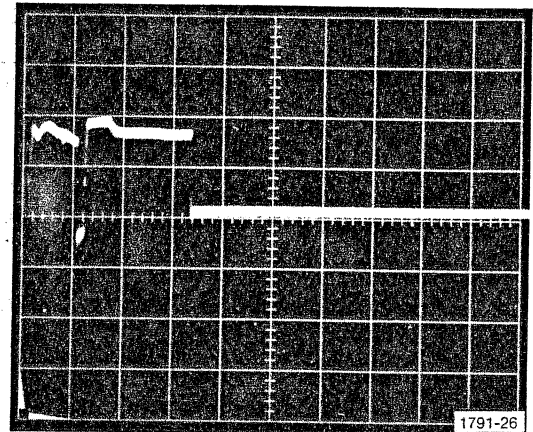

Fig. 4-8. FIREX/FIREY waveform.
5. If the tablet checks out properly, replace the frame and the four attaching screws, then check the FIREX and FIREY pulses (J231-7 and J231-6, respectively). This is accomplished by placing an oscilloscope probe on the appropriate connector and setting the oscilloscope to positive trigger internally. Set the oscilloscope controls for 2 V/Div and 2 μ s/Div. The pulse for each axis should resemble that in Fig. 4-8. If not, the pulser is not operating properly.